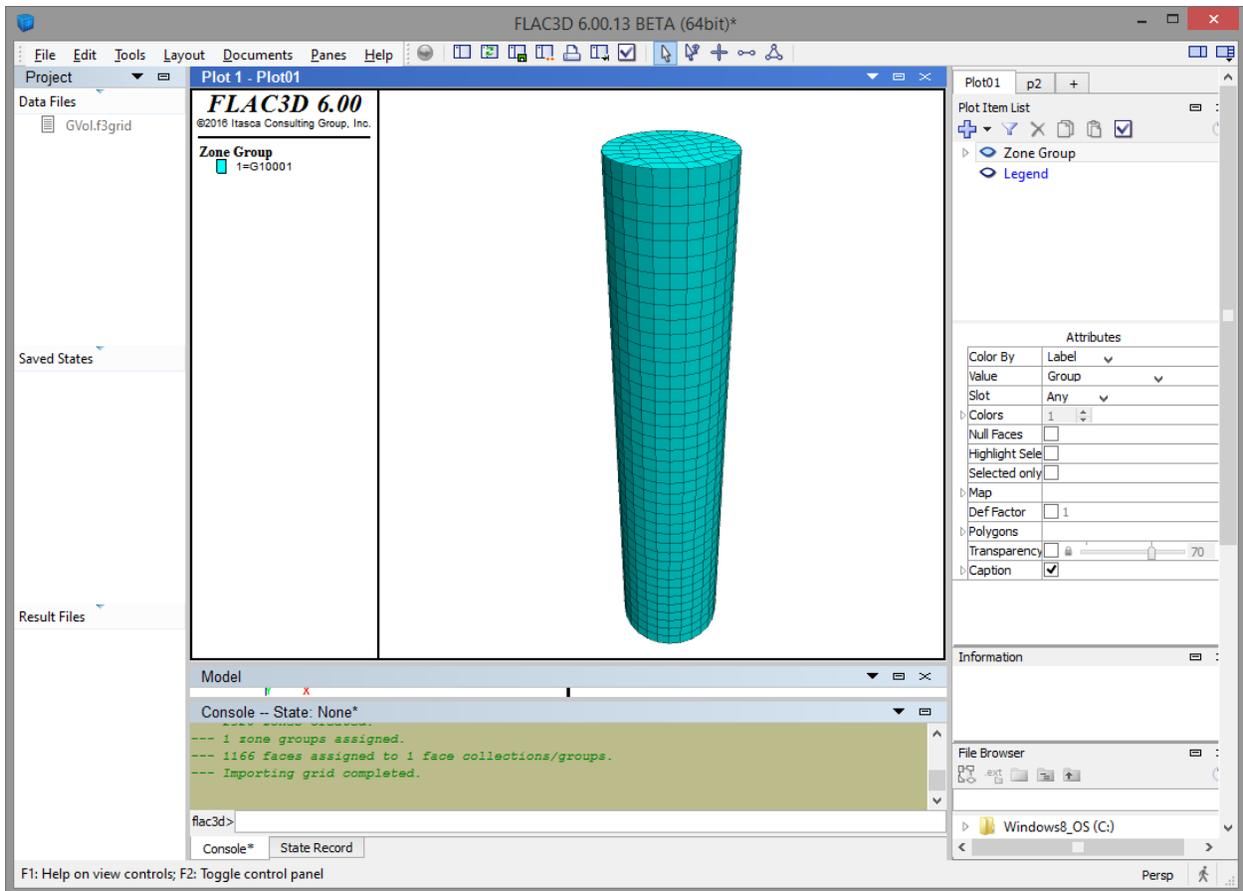

Figure 34: Volume mesh of cylinder read into *FLAC3D*.
8. Select the mesh generated in the above step and type **_GVol**. Select **Mode:ConHexDom** and **FLAC3D** output. Press **Enter**. **_GVol** will generate a conformal hex dominant and will output, in your current working directory, an ASCII file named **GVol.f3grid**. This file can be imported into *FLAC3D* using *FLAC3D's* **File|Grid|Import** (Figure 34).